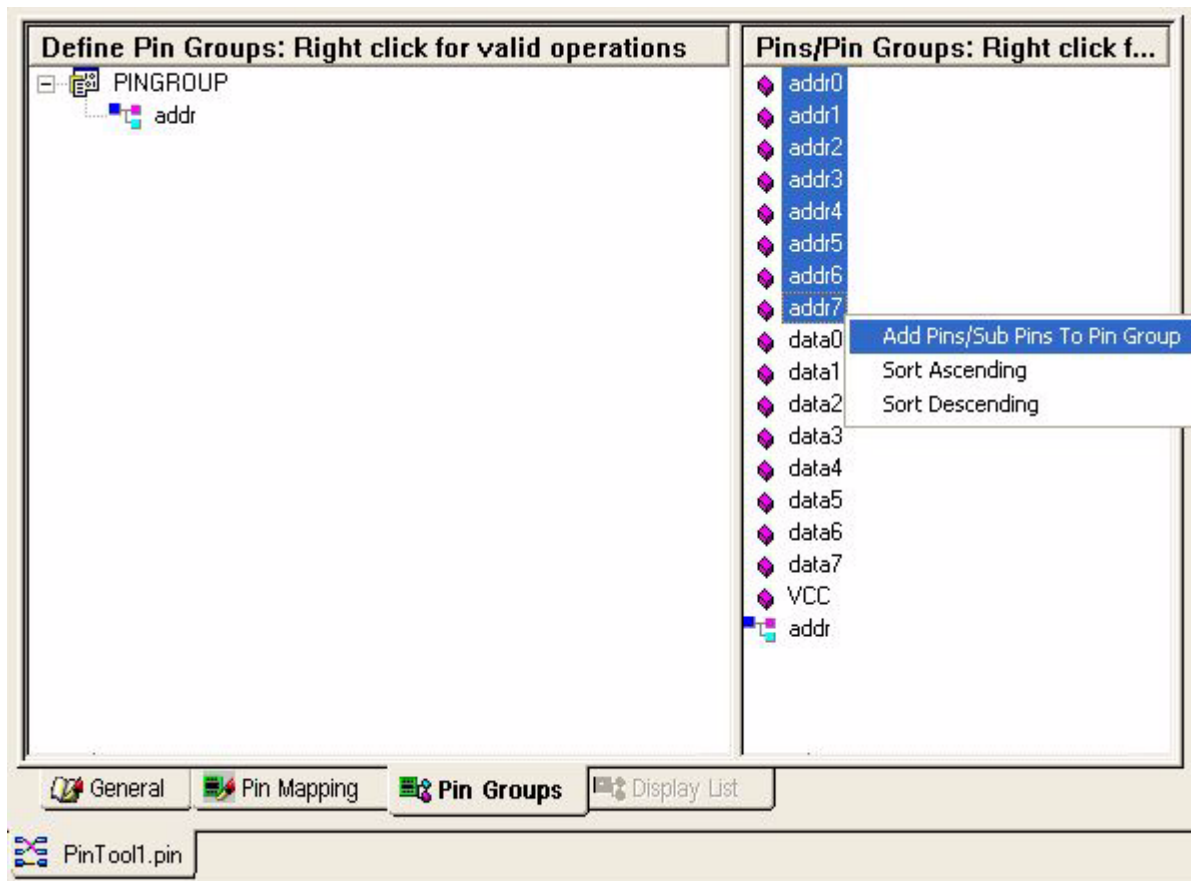

Figure 3-39. Adding Pins to the addr Group Name
- 4 Selecting `addr0` through `addr7` on the right side in the `Pins/Pins Group` panel and right clicking displays a pop-up menu that contains a `Add Pins/Sub Pins To Pin Group` command (Figure 3-39) that adds them to the `addr` group on the left side in the `Define Pin Groups` panel.